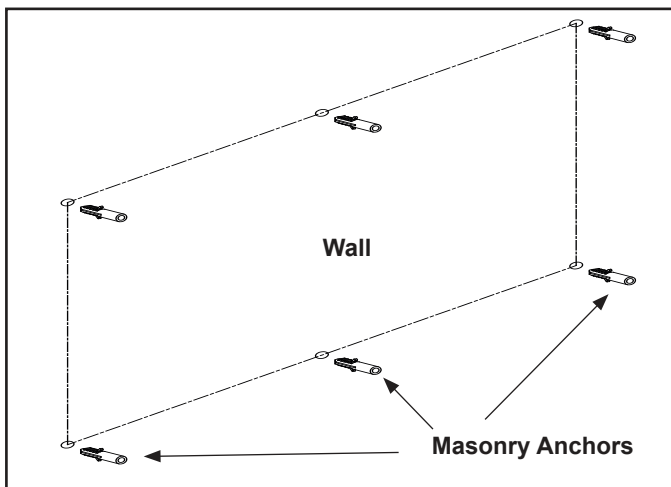

Figure 4.11 Masonry Anchor Placement
- In the marked locations, drill 5/16 in. diameter x 2 in. deep holes. See Figure 4.11.